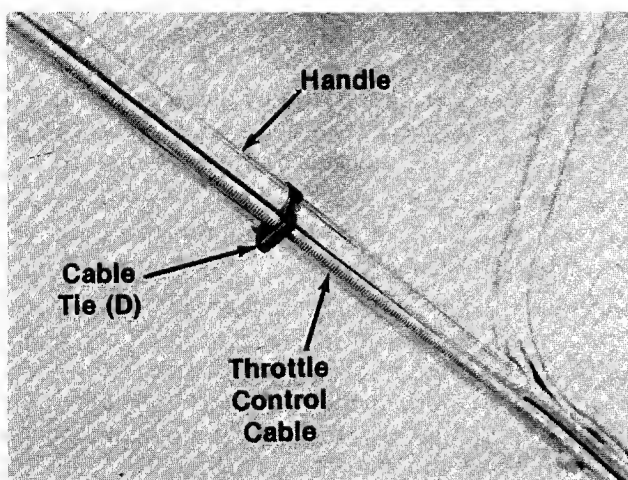

FIGURE 5.
- ← 6. Secure throttle control cable to upper and lower handles with cable ties (D) provided. See figure 5.